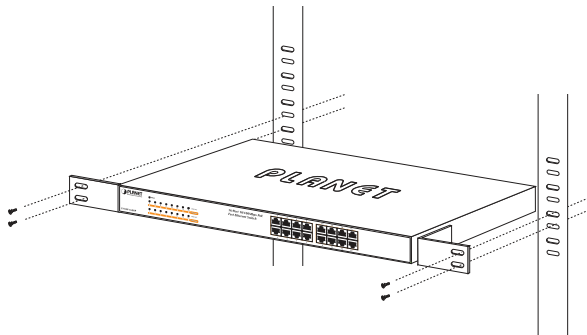

Figure 3-3: Mounting the 802.3at PoE+ Switch in a Rack
Step5: After the brackets are attached to the 802.3at PoE+ Switch, use suitable screws to securely attach the brackets to the rack, as shown in Figure 3-3.